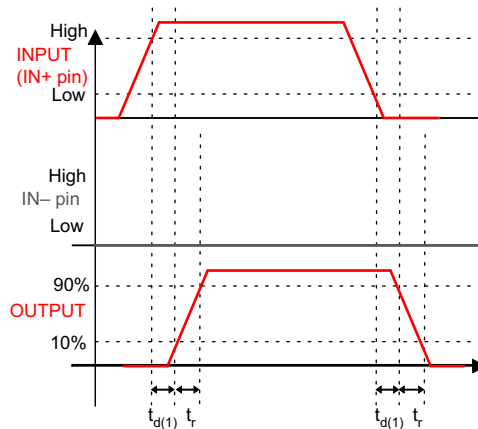
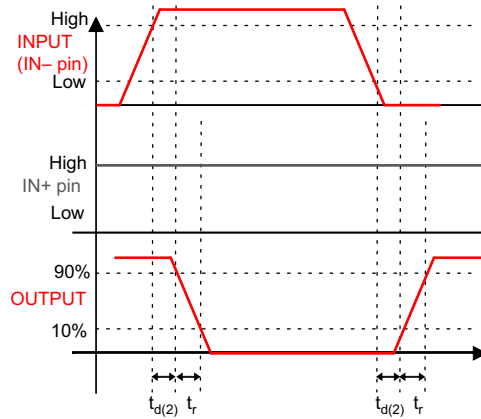

Figure 5-1. Non-Inverting Configuration (PWM Input to IN+ pin (IN– Pin Tied to GND), Output Represents OUTH and OUTL Pins Tied Together in the UCC27511A)
図 5-2. Inverting Configuration (PWM Input to IN– Pin (IN+ Pin Tied to V_{DD}), Output Represents OUTH and OUTL Pins Tied Together in the UCC27511A)
$V_{DD} = 12\text{ V}$, $T_A = T_J = -40^\circ\text{C}$ to 140°C , $1\text{-}\mu\text{F}$ capacitor from V_{DD} to GND. Currents are positive into, negative out of the specified terminal. See Figure 5-1, Figure 5-2, Figure 5-3, and Figure 5-4
(1) See timing diagrams in Figure 5-1, Figure 5-2, Figure 5-3, and Figure 5-4.